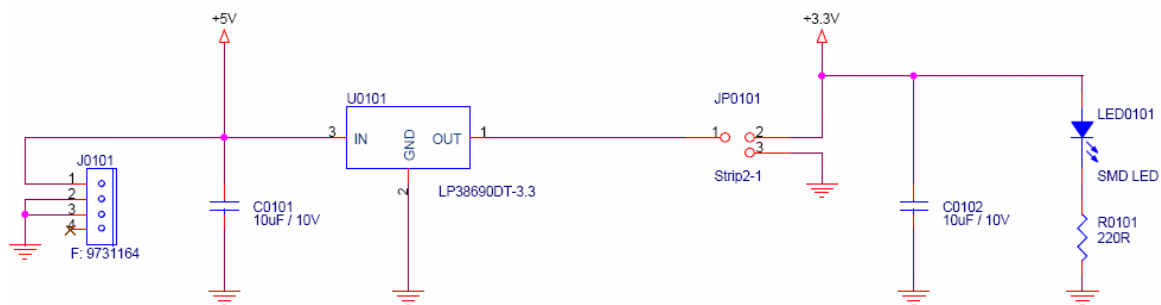

Figure 3: Power Supply Circuit of the COBRA52235
1. Connect a 5V power supply to the supply voltage connector J0101 of the COBRA52235 module. You can use the supply voltage connector cable which is provided in the starter kit. You should ensure, that the +5V supply voltage is connected to pin 1 of the connector J0101 and GND is connected to pin 2 and/or pin 3 of the connector J0101 (see figure 3). The supply voltage should be $5V \pm 1V$ (4 ... 6 V), the power supply should be able to provide up to 500mA supply current.